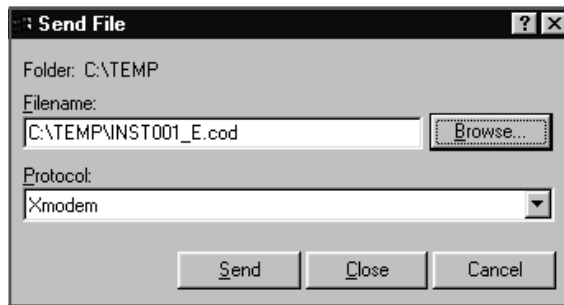

Figure 160: The Send File Window in the Transfer Menu
1. In the Hyperterminal window, pull down the Transfer menu and click Send File. A window opens similar to *Figure 160*.